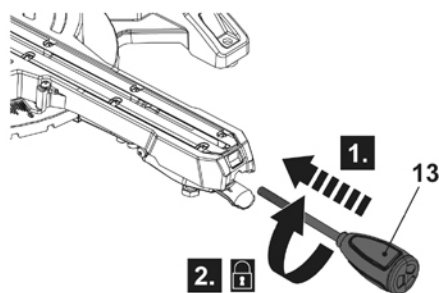

Fig. 2
- > Insert the shaft into the opening and screw the turntable locking handle (13) onto the product (Fig. 2, step 1).
- > Tighten the locking handle afterward (Fig. 2, step 2).